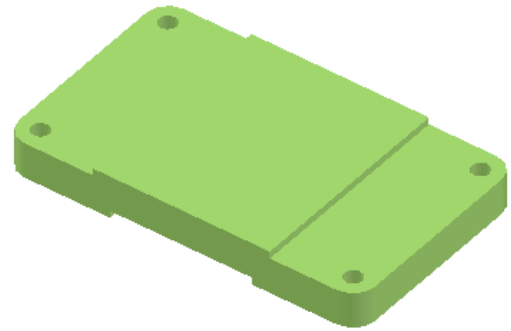

Figure Step 2A
Step 2 On layer: Solid Base, create a solid model of the Base. (Figure Step 2A and 2B)